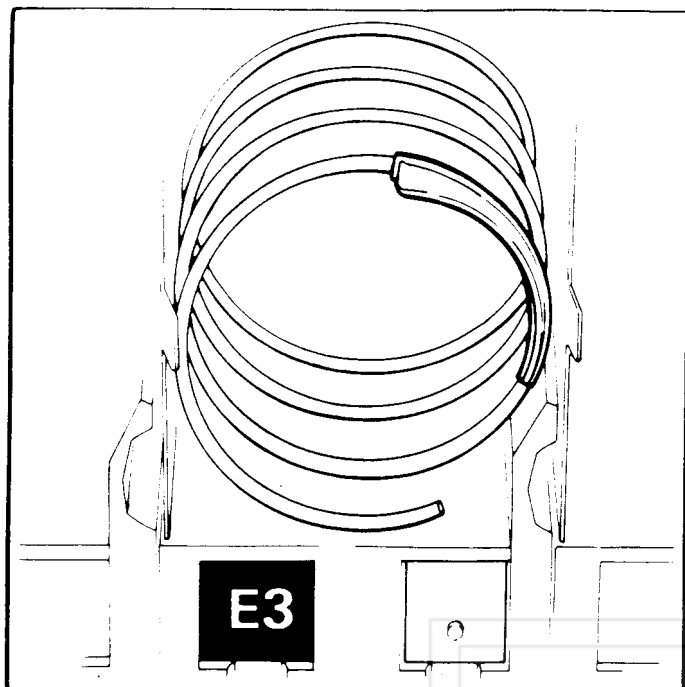

Figure 7. LOCATION OF PRODUCT PUSHER ON SPIRAL.
9. **PRODUCT PUSHER:** The machine contains enough pushers for you to install a pusher on each candy spiral. This plastic part is designed to push the top of the product forward while it is vending, helping it fall from the shelf. It can also be used with products that have the wrapper end flap on the outside of the package. In this case, the pusher prevents these products from hanging on the spiral by spreading the flap. The pusher is installed approximately 210 degrees from the front end of the spiral with the tab extending forward (see Figure 7). Locate the pusher in its proper position, hold it against the spiral wire and push the semi-circular part around the spiral wire. Note: Not every selection spiral will need a product pusher. (Example—Box Items)